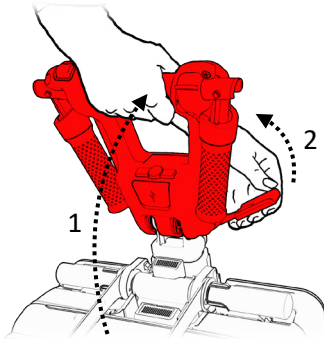

Figure 42
1. Make sure the handle bar is secured at an upright position (see Figure 42).